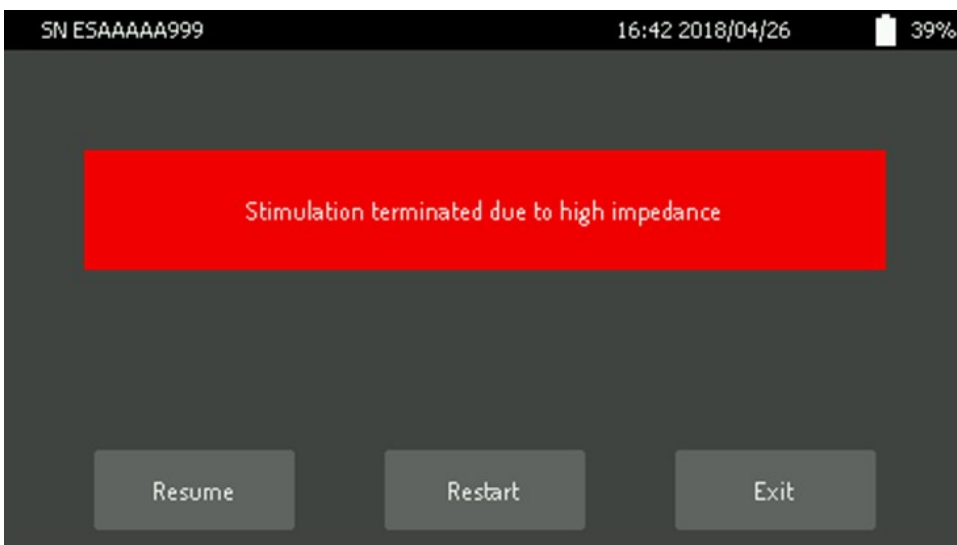

Figure 70. Stimulation terminated due to high impedance or disconnected electrodes – visible as high impedance.
- impedance value falls below or above safe range (Figure 70),
- user disconnects electrodes or pin cables (Figure 70),